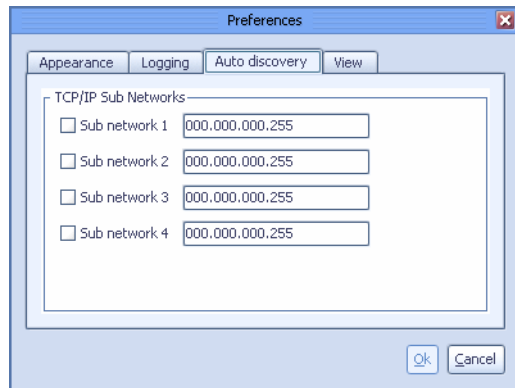

Figure 10-3 ProtecTIER Preferences window
1. From the menu bar, select **Tools** → **Preferences**. The Preferences window opens (Figure 10-3).